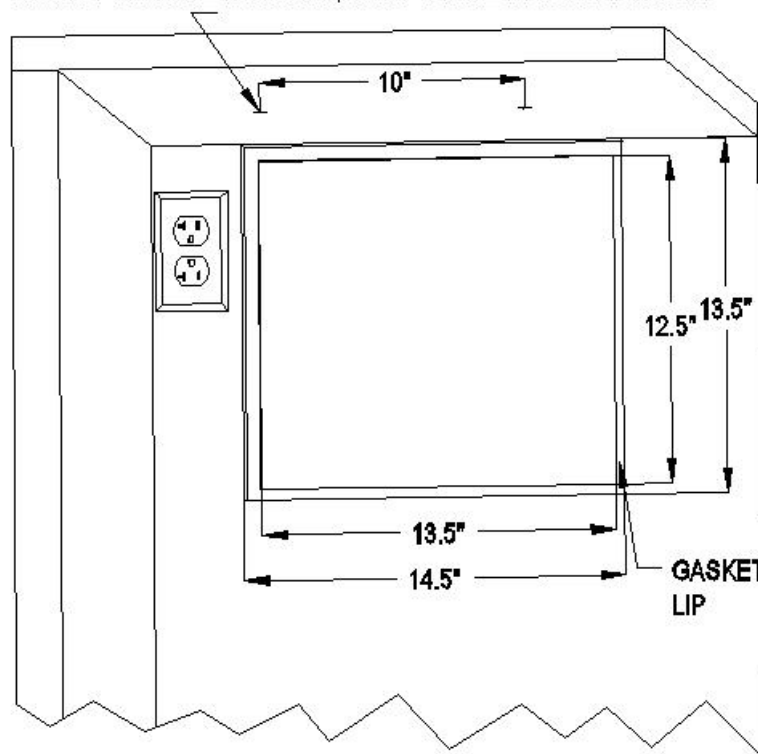

Fig. 2.1 CABINET CUTOUT & GASKET LIP
- Cut a rectangular inside opening with the 1/4" clearance inwards to the width and height of the cooling unit. By not going through, leave 1/2" lip inside at the wall to place the gaskets (see Fig 2.1 & 2.2).
- Make 2 holes at the ceiling to install the 1/4 inside diameter wood thread inserts (see Fig.2.1 & 2.4).